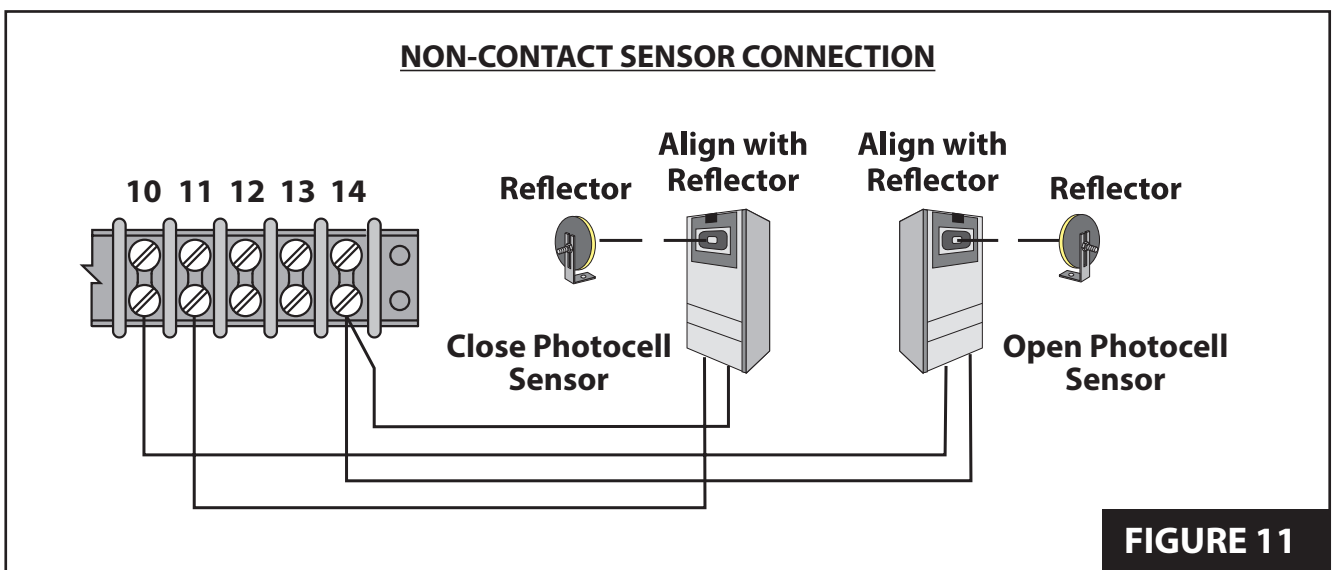

FIGURE 11
3. Connect **NON-CONTACT** sensors to the control board as shown in **Figure 11**.